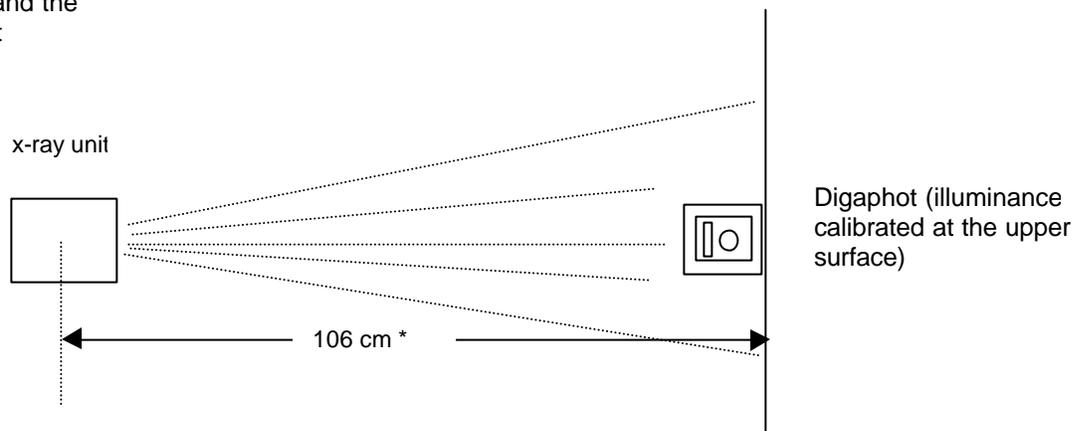

Figure 3 Digaphot Positioned for Measurement in the Horizontal Position
- (4) If the horizontal meter orientation (Fig. 3) is used, follow the same procedure above.